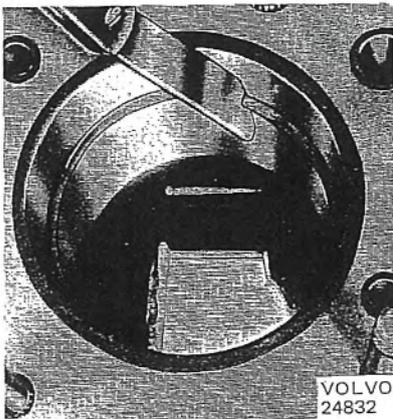

Fig. 2-28. Measuring piston ring gap
2. Measure the ring gap with a feeler gauge, see Fig. 2-28. The gap should be 0.40–0.55 mm (0.016–0.022"). If necessary the gap can be increased with the help of a special file.